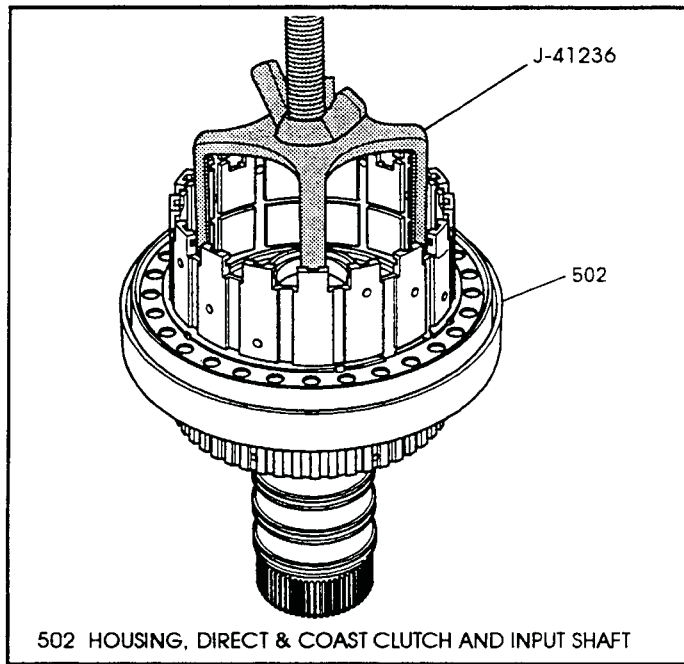

Figure 127
7. Install compressor tool J-41236, as shown in Figure 127, and compress coast clutch return spring.